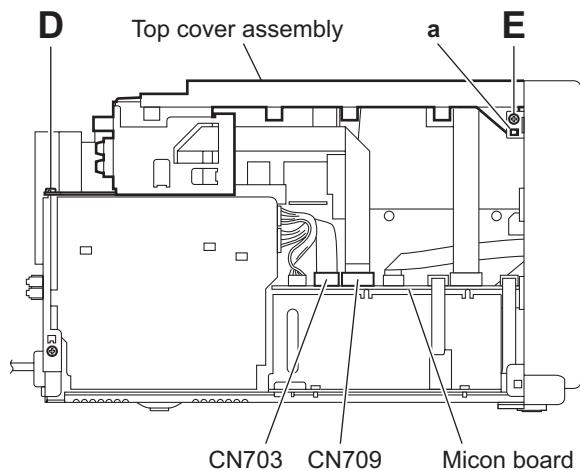

Fig.4
(See Figs.4 and 5)
- (1) From the left side of the main body, disconnect the card wires from the connectors (CN703, CN709) on the micon board. (See Fig.4.)
- (2) Remove the screw **D** attaching the top cover assembly. (See Fig.4.)
- (5) From the both sides of the main body, remove the two screws **E** and screw **F** attaching the top cover assembly. (See Figs.4 and 5.)
- (6) Release the joints **a** and remove the top cover assembly. (See Figs.4 and 5.)